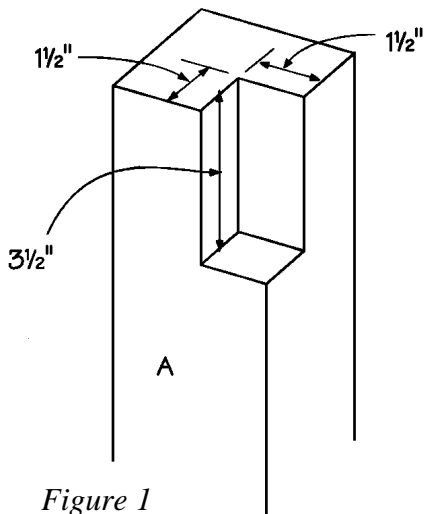

Figure 1
1. Cut four legs (A) from 4 x 4 pine, each measuring 26 inches long.
2. In order to properly support the table, the legs must be dadoed. Refer to *Figure 1* to dado